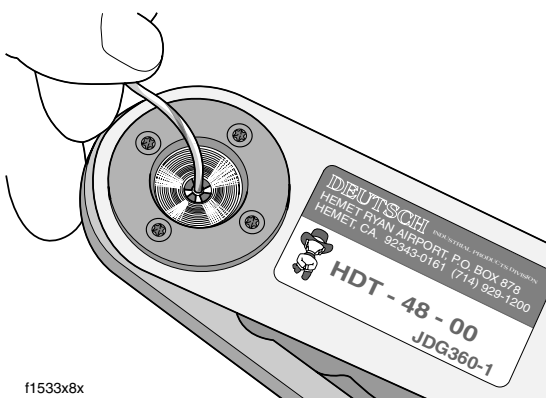

Figure B-9. Deutsch Solid Barrel Contact Crimping Procedure
4. Raise selector knob and rotate until selected wire size stamped on wheel is aligned with "SEL. NO." arrow. See upper frame of Figure B-9.
8. Slowly squeeze handles of crimp tool until contact is centered between indenter points. See middle frame of Figure B-9.
10. Insert bare wire strands into contact barrel. See lower frame of Figure B-9.